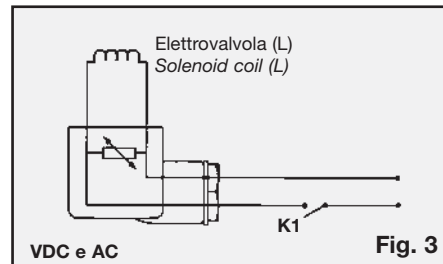

Fig. 3
**Con VDR (Voltage e-Dependent-Resistor) in parallelo all'elettrovalvola (Fig. 3)**
**With VDR (Voltage-Dependant-Resistor) in parallel with the coil (Fig. 3)**